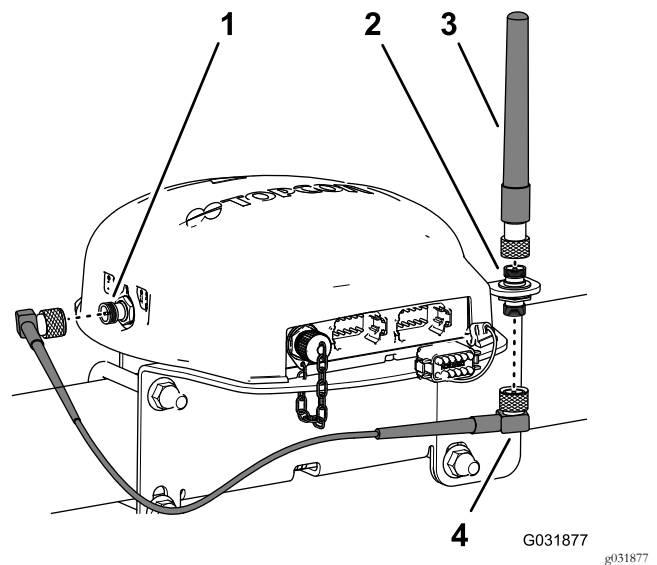

Figure 148
- Assemble the RTK antenna onto the upper fitting of the coaxial coupler, and tighten the knurl nut of the antenna by hand (Figure 148).
- Loosely assemble the antenna cable to the lower fitting of the coaxial coupler (Figure 148).
- Route the cable around the back of the navigation receiver to the coaxial connector of the CDMA or GSM cellular modem (Figure 148).
6. Assemble the antenna cable to coaxial connector of the CDMA or GSM cellular modem (Figure 148).